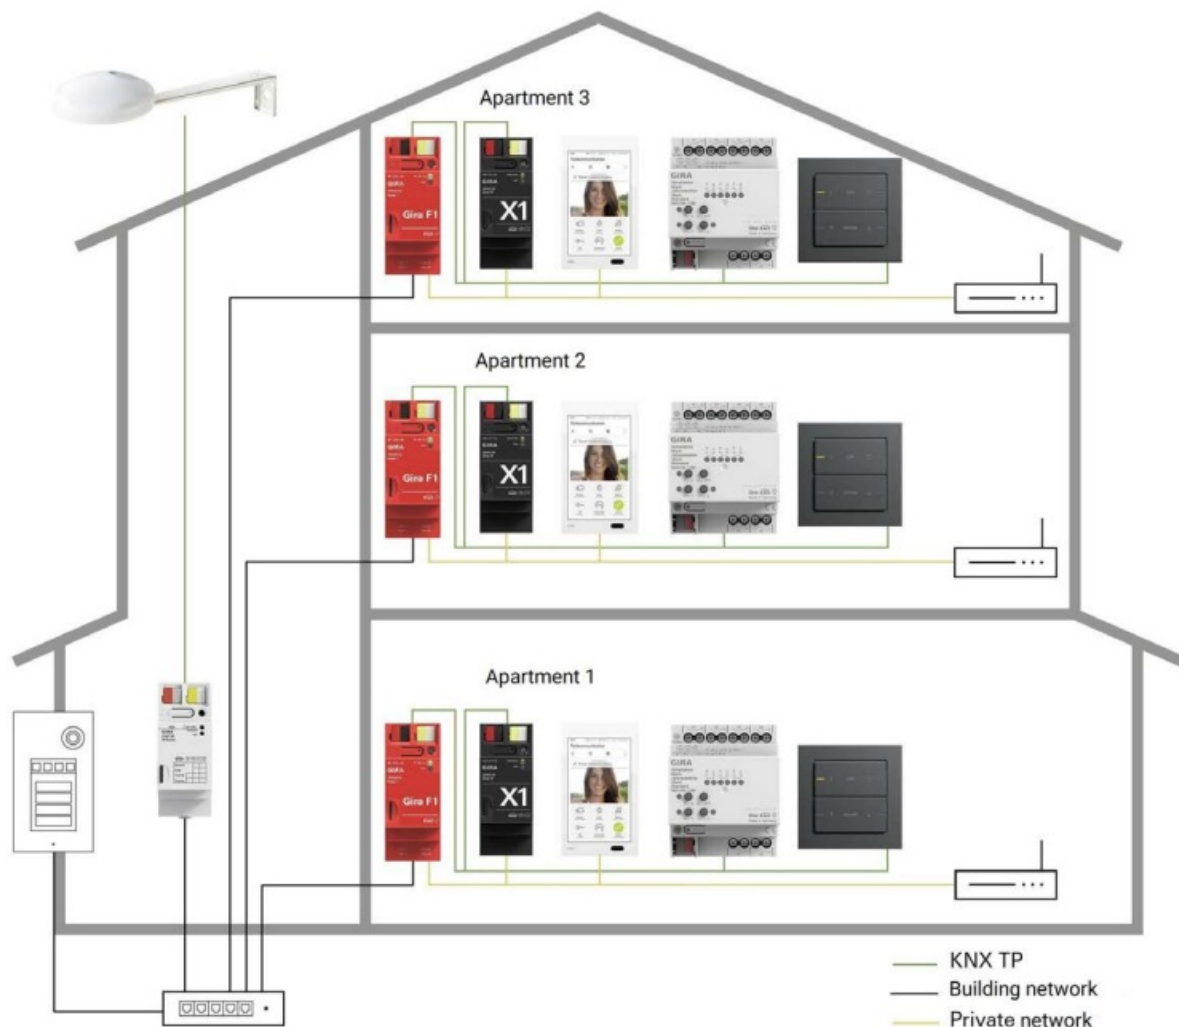

Figure 1: System overview
- Snap the device onto a top-hat rail according to DIN EN 60715. See Figure 1 for installation position.
- Connect the external power supply 24-30 V DC to the connection terminal (3). Recommendation: use white-yellow connection terminal.
- Connect the KNX line of the residential unit to the red-black bus terminal (2).